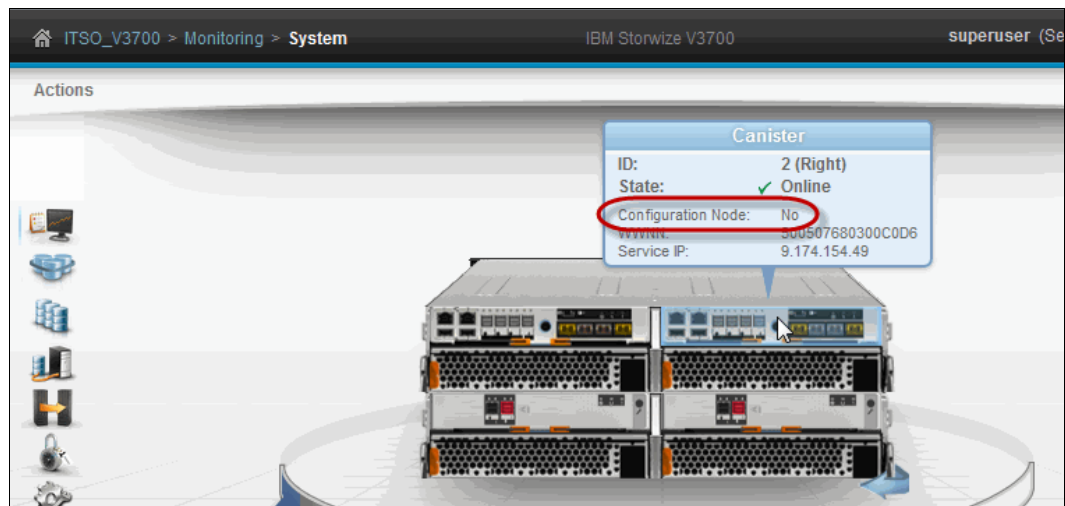

Figure 11-39 Checking the Configuration node status
- Non-configuration nodes are updated first, leaving the configuration node until last. In the management GUI, select **Monitoring** → **System** and hover over the canisters to confirm which is or are the non-configuration node or nodes, as shown in Figure 11-39.